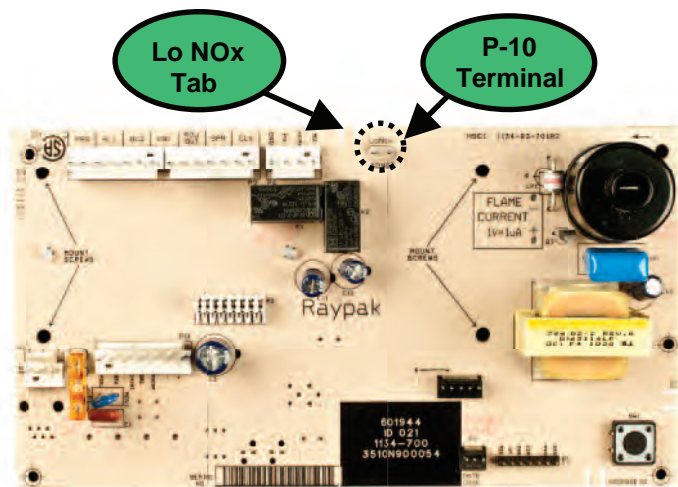
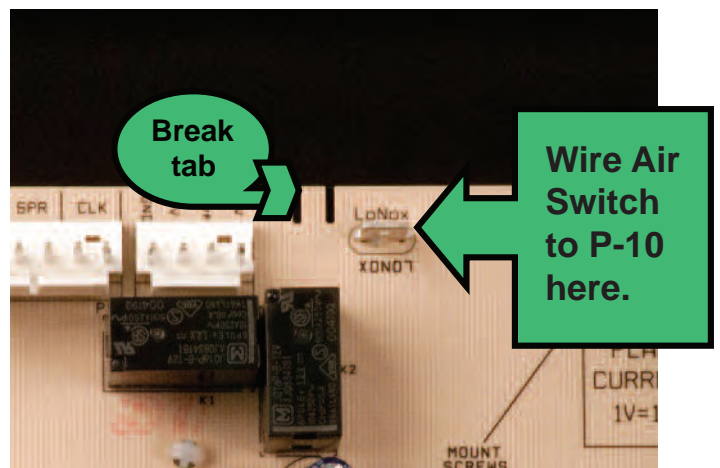

Fig. 12
Fig. 13
1. Locate Lo NOx tab and P-10 air switch terminal on the board as shown in **Fig. 12** and **Fig. 13**.